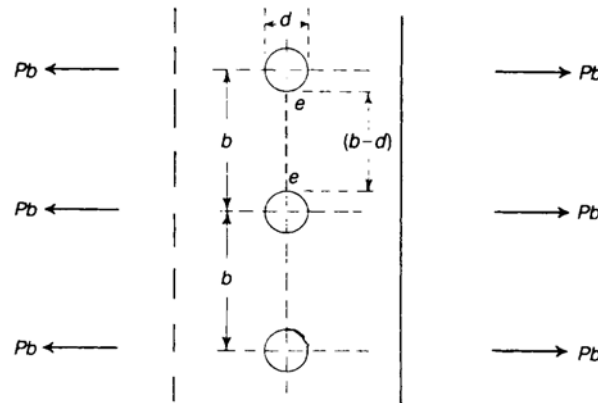

Figure 3.4. Tensile failures in the plates.
(3) Tensile failures may occur in the plates; clearly the most heavily stressed regions of the plates are on sections such as ee , Figure 3.4,